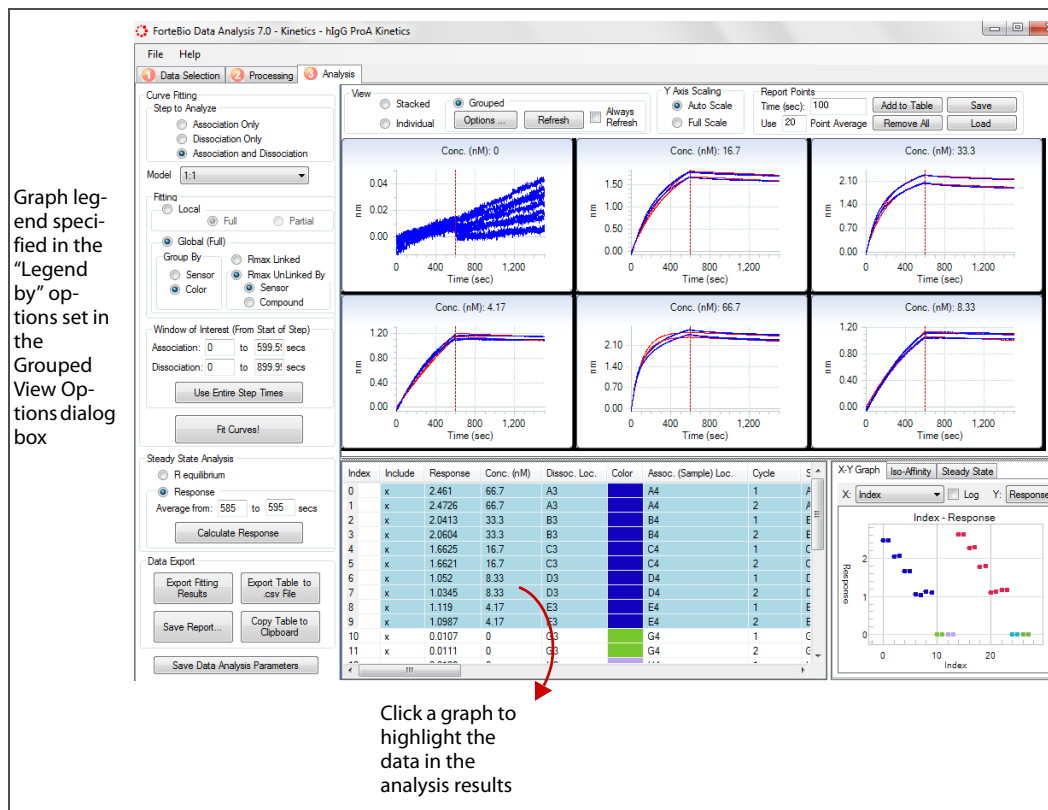

Figure 5-49: Fitting View—Grouped Option
- **Legend by**—Select up to two categories to include in the graph legends (Figure 5-49).